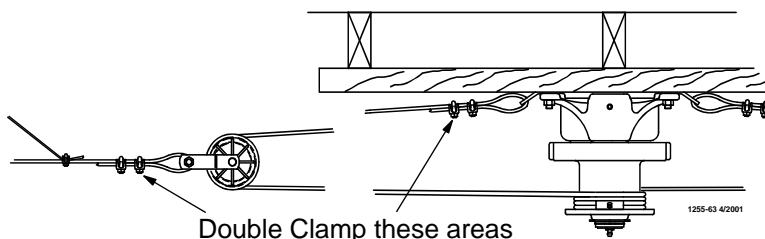

Figure 9. Double back arrangement for feed lines over 350' [107 m]
1. Extend the 3/16" [5 mm] Main Winch Cable the full length of the feeder line. Attach the cable temporarily to the ceiling with nails, staples, or some type of fasteners. **Figure 9** shows a double back arrangement for feed lines over 350' [107 m]